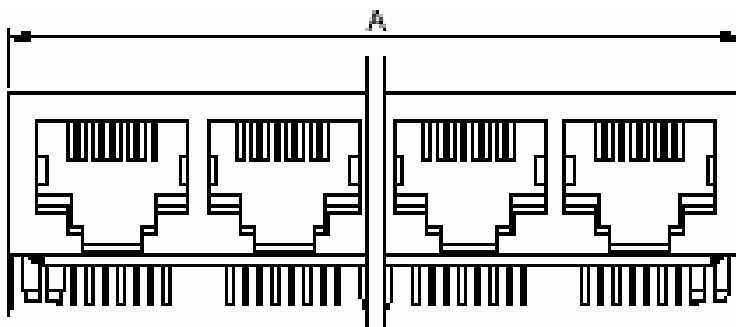

Figure 2 Shielded RJ45 connector on PSB board (front view) ERNI MJHS-G cat5e
- **RJ45 connectors.** See also Figure 2.